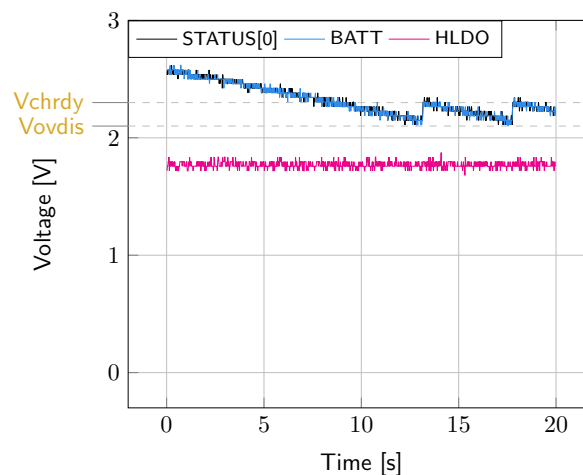

Figure 5: Switching from **SRC** to the primary battery
- **BATT**: Voltage decreases as the system consumes the power accumulated in the storage element. The voltage reaches **Vovdis** and then rises again to **Vchrdy** as it is recharged from the primary battery (see Figure 5).
- **STATUS[0]**: Never de-asserted as the LDOs are still functional (see Figure 5).
- **HLDO**: Stable and not affected by switching on the primary battery (see Figure 5).